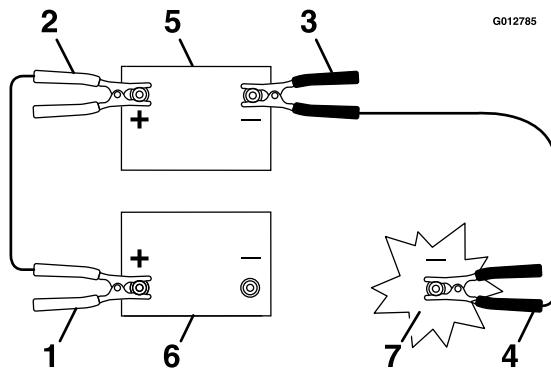

Figure 58
- Connect the positive (+) cable to the positive (+) terminal of the discharged battery that is wired to the starter or solenoid as shown in Figure 58.